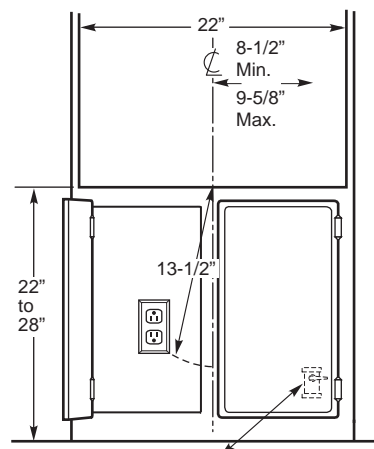

Fig. 6
- B. Install the electrical outlet below the oven on the left side, in a location that is easily reached through the cabinet doors (see Fig. 6).